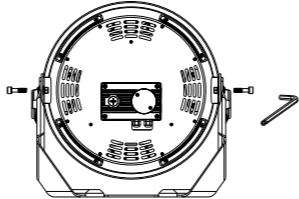

Figure 1
- 1: Fix the FM bracket to the heat sink with M12 screws (Figure 1);